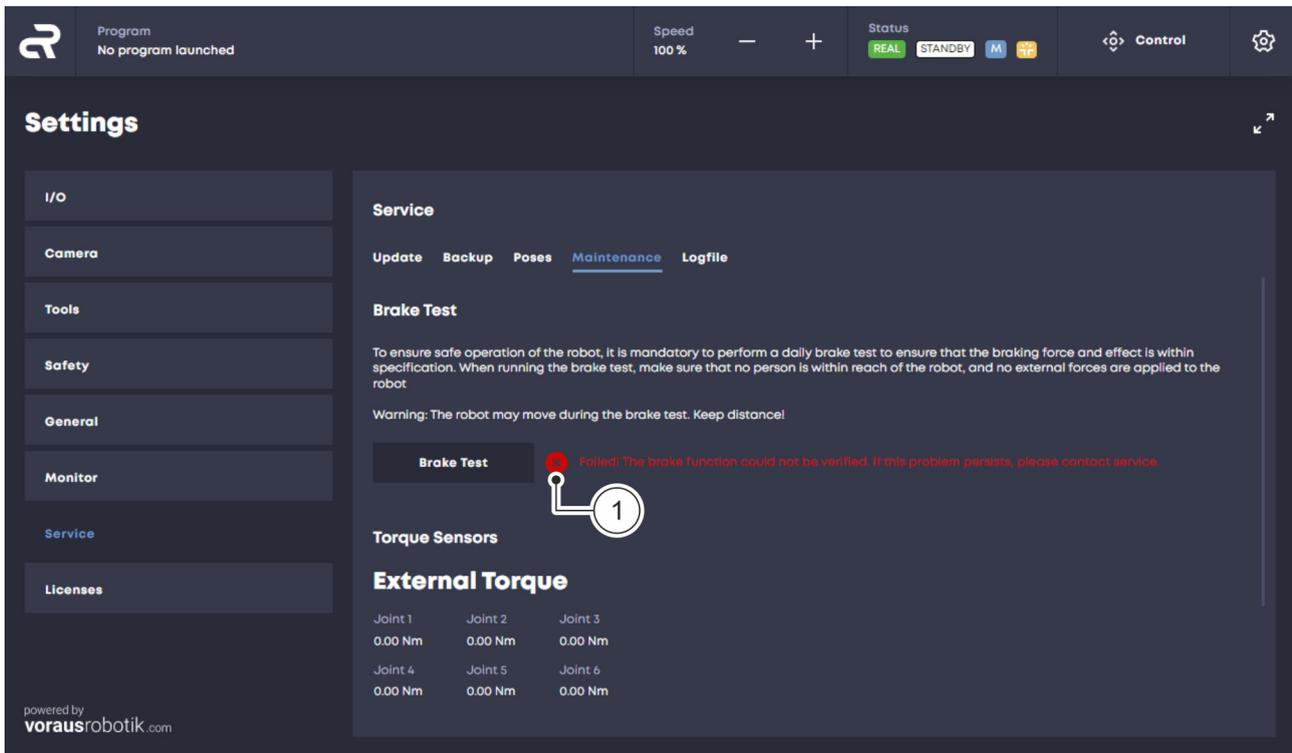

Fig. 52 Brake test failed
05. If the brake test fails and the text 'Failed' is displayed Fig. 52/1: Repeat the brake test as described above or perform a calibration of the torque sensors (page 72).